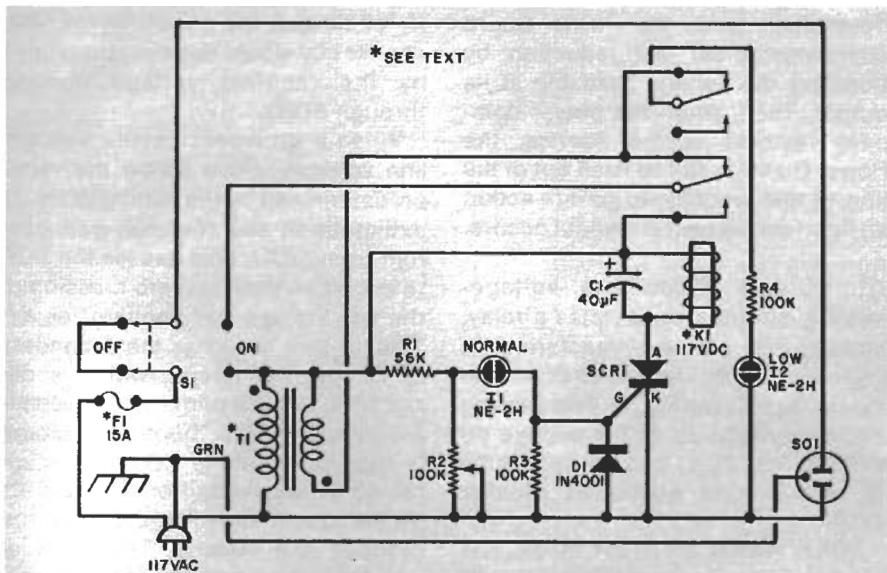

Fig. 1. Voltage-sensing circuit switches transformer in and out of circuit to keep voltage up during brownout.
**About the Circuit.** A voltage-sensing circuit that operates a relay, causing it to switch a transformer in and out of the ac line is the heart of the Power Guard (see Fig. 1). The sensing circuit is made up of the voltage divider formed by *R1* and *R2*, neon lamp *I1*, and silicon controlled rectifier *SCR1*.